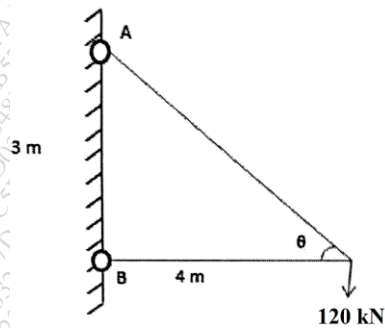

Fig. 4
- Q.4 Find vertical and horizontal deflection of joint C of the truss shown in fig 4. The area of inclined tie is 2000 mm^2 , while the area of horizontal member is 1600 mm^2 . Take $E = 200 \text{ kN/mm}^2$. 15